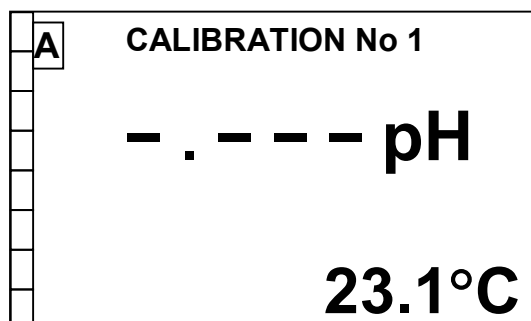

Fig. 2.2
- 3 Place pH-electrode (electrodes) and temperature sensor in the first fresh buffer solution. Press the  key. The first buffer solution shall be identified. The display shown in Fig. 2.2 shall come up.